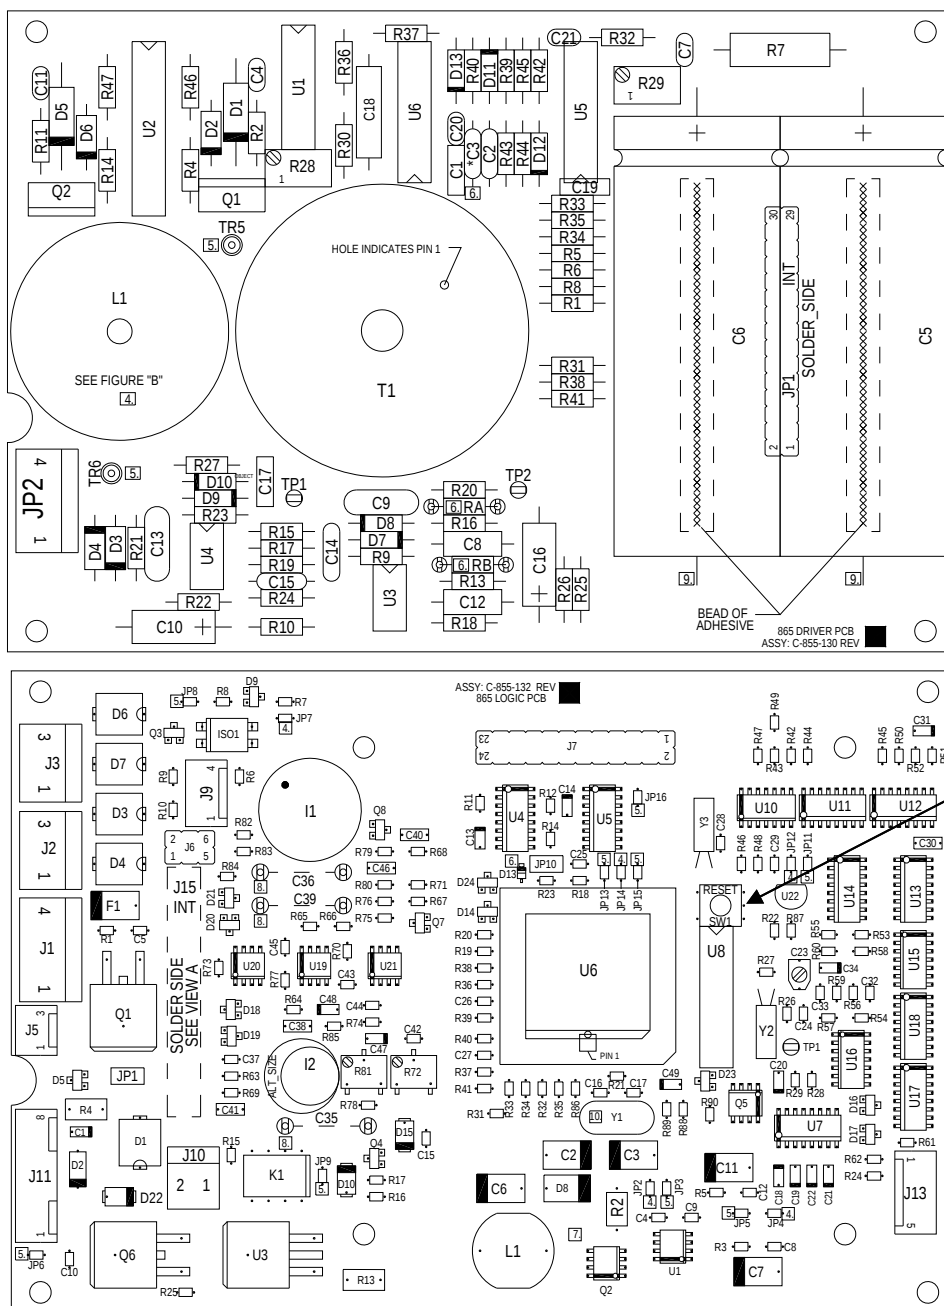

Figure 2-1 Driver and Logic PCB's Top View
- **Driver Board (C-855-130)** contains the components required for transmitting, i.e. output transformer, inductor, power transistors and capacitors. It also contains the circuitry for transmit pulse gating, sensitive receiver preamplifier, and the transducer connection. (See figure 2-1)
- **Logic Board (C-855-132)** contains the remaining receiver circuitry including the limiter amplifier, detector, and the microprocessor based command decoder. (See figure 2-1)
To connect the serial cable, open the housing to gain access to the electronics boards. Connect the cable to the board via J13 (see figure 2.1). Connect the DB-9 connector on the other end of the cable to a computer running a terminal emulator (Procomm, Hyperterminal etc). Set the communications to the appropriate serial port (normally 1 or 2), with the following operating parameters:
Turn on the release, or if the unit is already on press the “Reset” switch SW1 (see figure 2.1) on the Logic board. The following opening screen should appear: